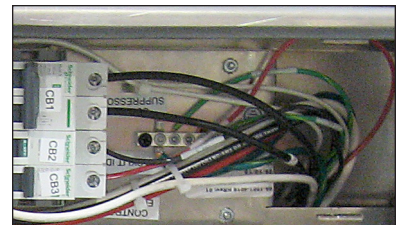

Figure 29: Connect Ground Wire
6. Connect the ground wire to the ground lug on the left side in the power entrance box (green wire) and tighten to 45 in-lbs with a $\frac{3}{16}$ " hex head wrench. Refer to **Figure 29**.